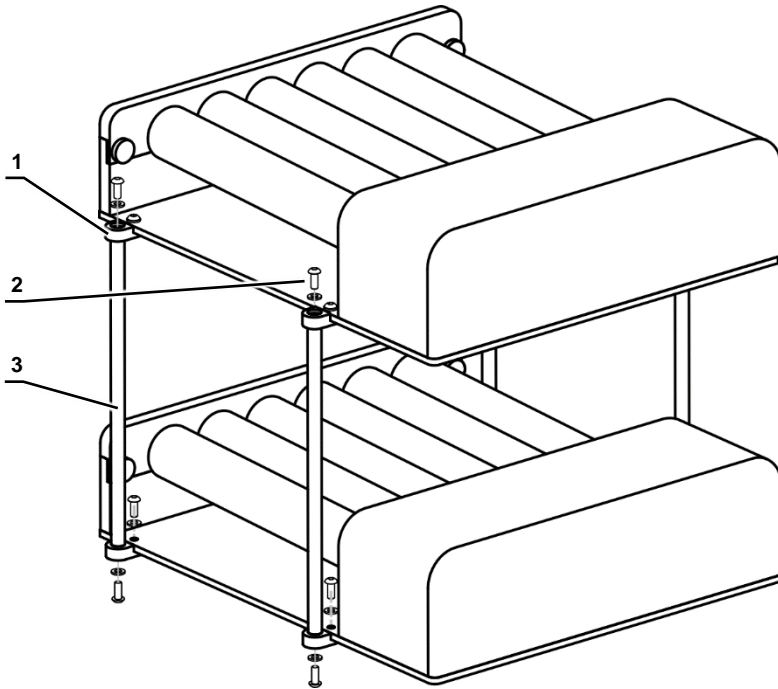

Figure 2. Stacking kit installation
4.4.4 Stacking two units (figure 2).
- Lock the bracket parts (fig. 2/1) with hex screws and washers (fig. 2/2) in 4 positions on the base plate of all stacking units.
- Insert the connecting rod (fig. 2/3) on the bottom bracket and secure it tightly with a hex screw and a washer. Repeat for other connecting rods.
- Lock the bracket parts (fig. 2/1) with hex screws and washers (fig. 2/2) in 6 positions on the base plate of all stacking units.
- Insert the connecting rod (fig. 2/3, with two internal threads) on the bottom bracket and secure it tightly with a hex screw and a washer. Repeat for other connecting rods.